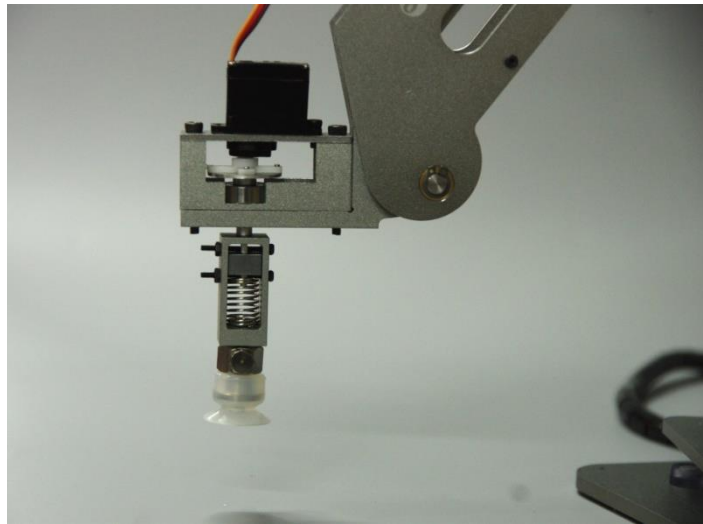

Figure 2.1 Sucker installation
1. A suction cup was installed as factory default configuration shown in Figure 2.1